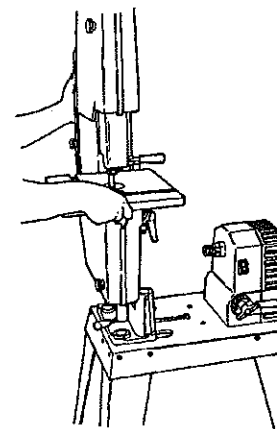

Fig.B-1
4. Placing your hands on the table and on the middle of the Bandsaw, lift it into the short tube holes in the Power Station carriage, with the drive shaft pointing toward the Power Station headstock. See Fig.B-1. You may need to adjust the Bandsaw's mounting tubes to fit them in the tube holes.